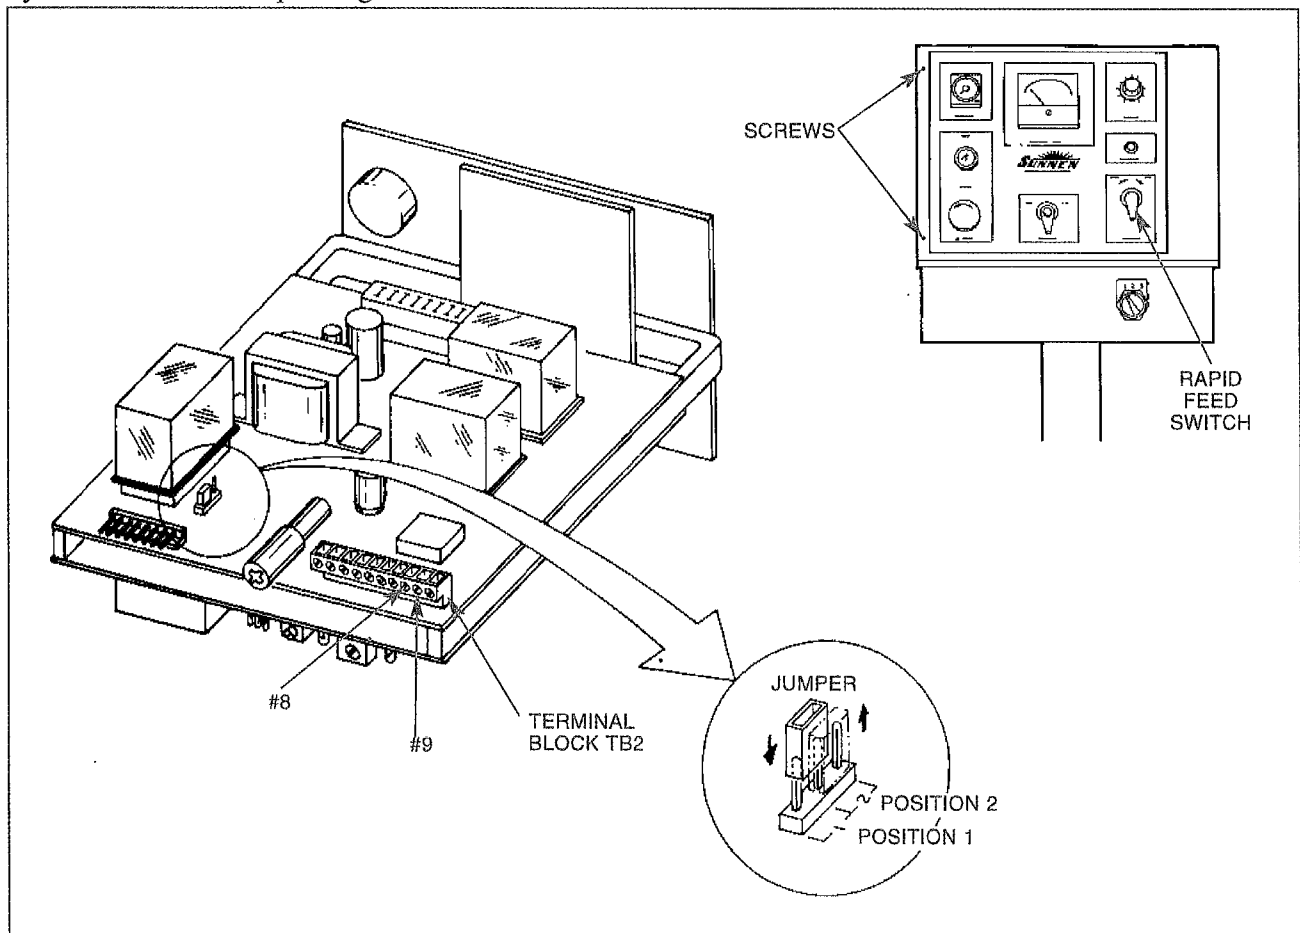

FIGURE 2-2, Feed Control Console (Internal View)
11. Loosen two (2) Screws securing Feed Control Console Door.
12. Turn RAPID FEED Switch to EXPAND (see Figure 2-2). Shaft on Remote Feed Unit should rotate counterclockwise when looking into Remote Feed Unit. If rotation is incorrect, proceed as follows:
13. Move JUMPER to Position 1 (refer to Figure 2-2). Use Position 2 ONLY if latching contact is not used in Option 1B.
**NOTE:** Position 1 is for External-Hold, and Position 2 is for Self-Hold (refer to Figure 2-2).